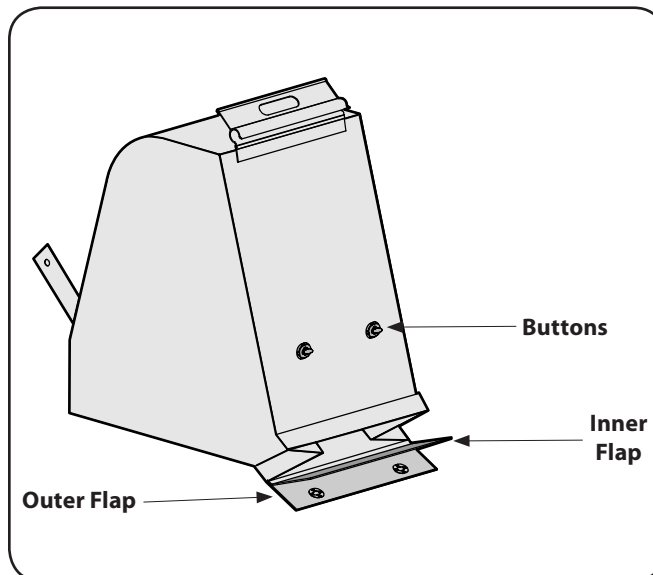

Figure 5-2
5. Twist the two buttons on the back of the bag to unlock and empty contents. See Fig. 5-2. Hold bag handle and bag clip while emptying the contents.
7. Fold outer flap over inner flap and insert buttons on the bag through metal outlets. See Fig. 5-2.